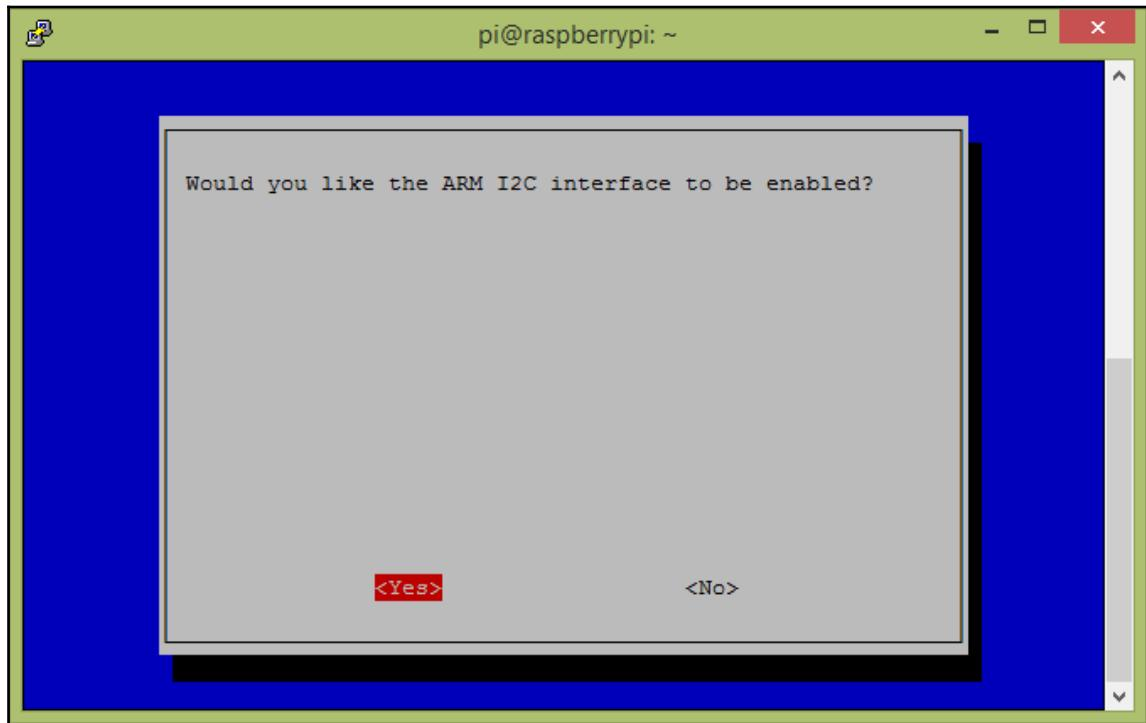

Figure 4-25: Configuration tool window
5. Select <Yes> and press *Enter* to enable the I2C interface on the Raspberry Pi (Figure 4-25):